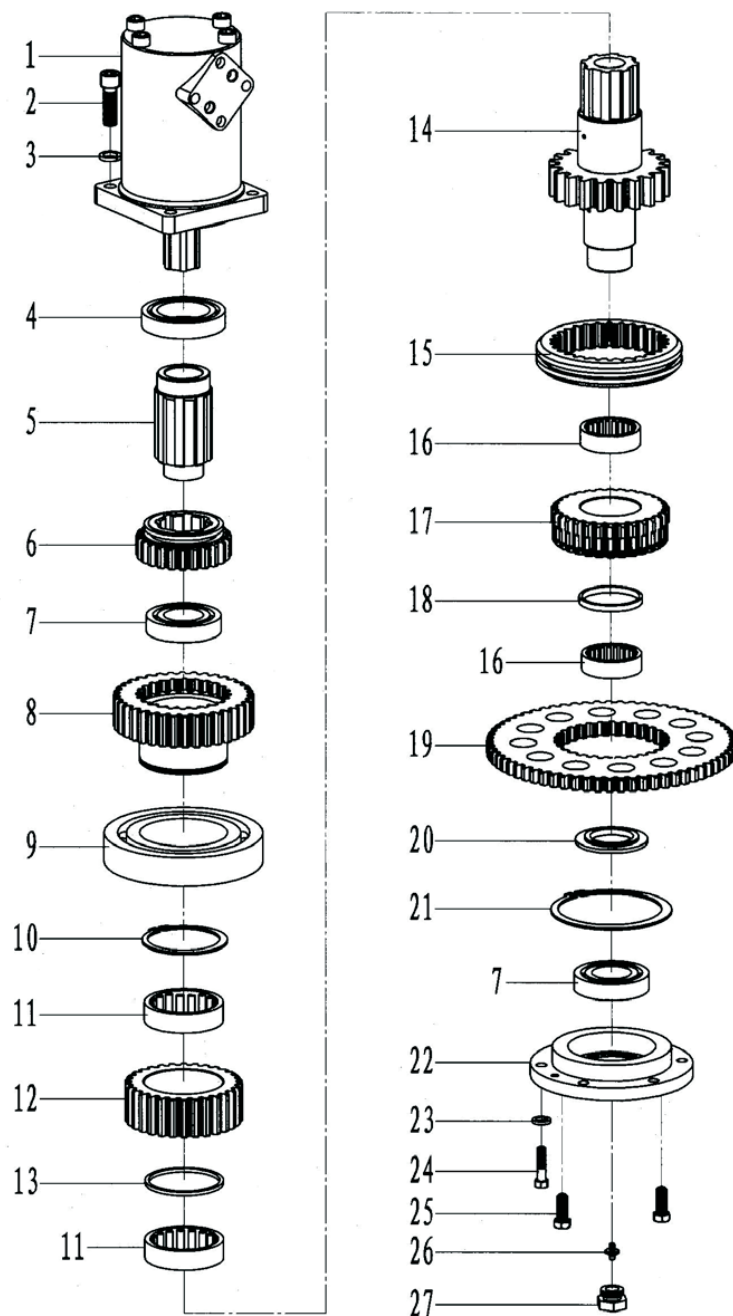

Fig.8
7.8 Assembly of power input (Fig.8,Table8)